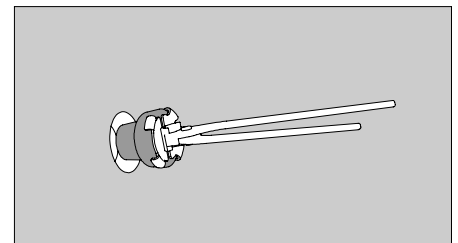

Fig. A5.14
2. Close anchor hole with a suitable cone, e.g. PERI concreting cones. (Fig. A5.14)